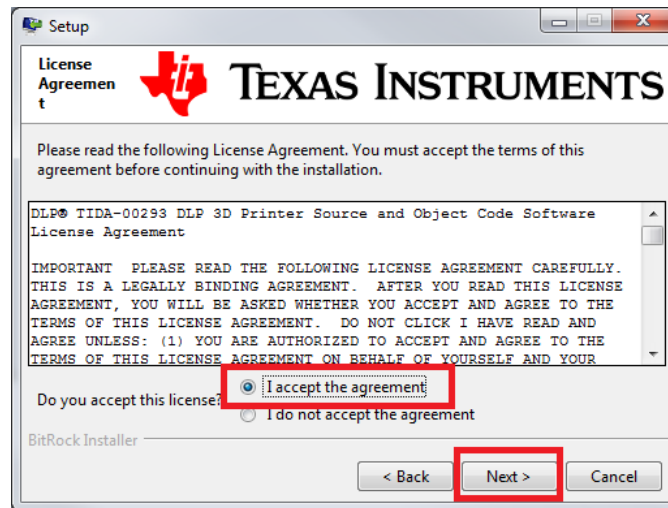

Figure 2-13. DLP 3D Printer Reference Design License Agreement Screen
4. Read and review the license agreement for the DLP 3D Printer Reference Design, as shown in Figure 2-13. Click the **I accept the agreement** radio button and then click the **Next** button to continue installing the software.